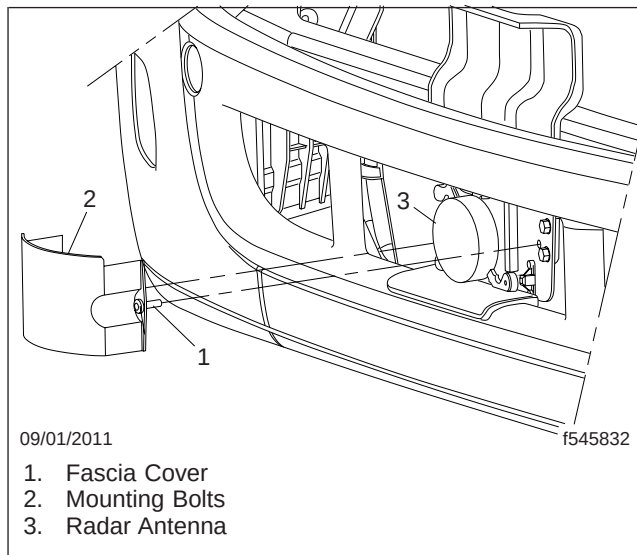

Fig. 1, Radar Antenna Fascia Cover
2. Remove the two fascia attaching bolts and remove the fascia from in front of the radar antenna. See Fig. 1.